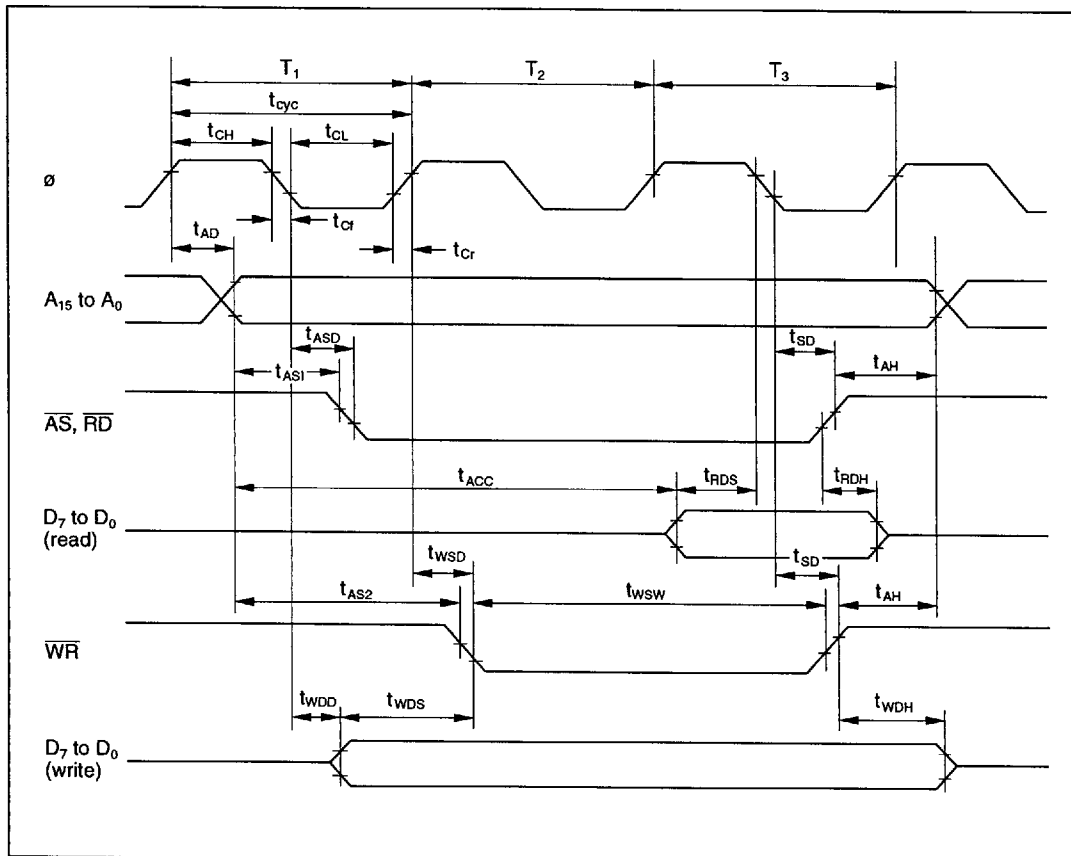

Figure 20-4 Basic Bus Cycle (without Wait States) in Expanded Modes
20.3.1 Bus Timing	Figures 20-4 to 20-5